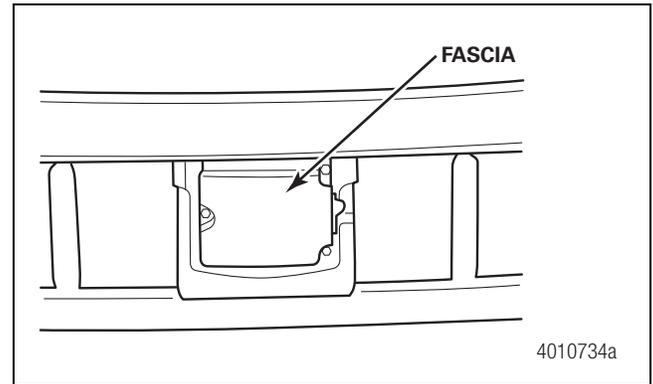

Figure 8
8. Place the fascia in position over the radar sensor. Install the M6 x 35 mm flange-head bolts included in the kit and dry tighten to 91 in-lb (10.3 N•m). Figure 8.